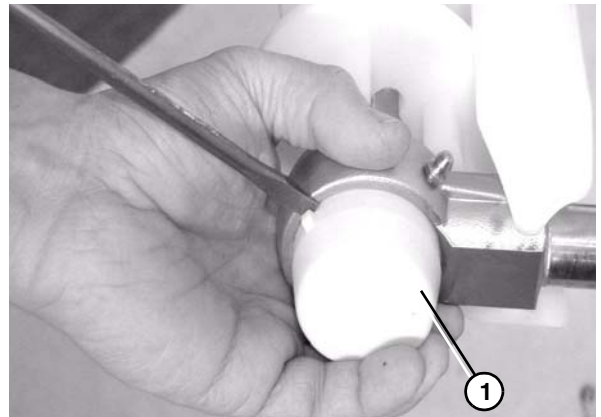

Figure 58
3. Remove the bearing cover (Figure 58, item 1).
6. Attach the bearing covers. Reference (**Figure 58**).